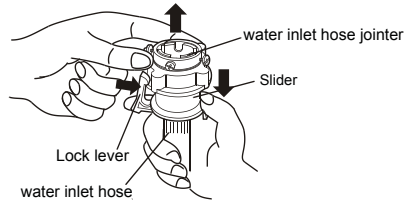

Figure 1
1.Press the lower end of the lock lever and push down the slider. Take off the water inlet hose jointer from the water inlet hose component. See to Figure 1.
- Turn the inner tub, you will find a softener inlet as the figure 1, open the cover, put the softener into the inlet as the figure 2. Before washing, close the cover and the softener will drop into the inner tub during the last time rinsing.